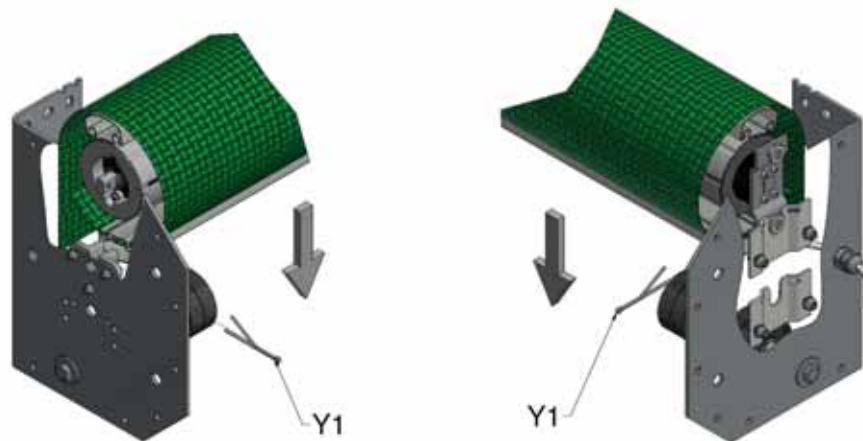

Figure 7, Locating Top Tube In Brackets (RH Drive Shown)
- When lifting the roller assembly onto the top brackets, ensure that the spring shaft and the pins on the motor head slide completely into the base of the cup brackets (Figure 7). Lock in place with the M4 split pins (Y1) each end.